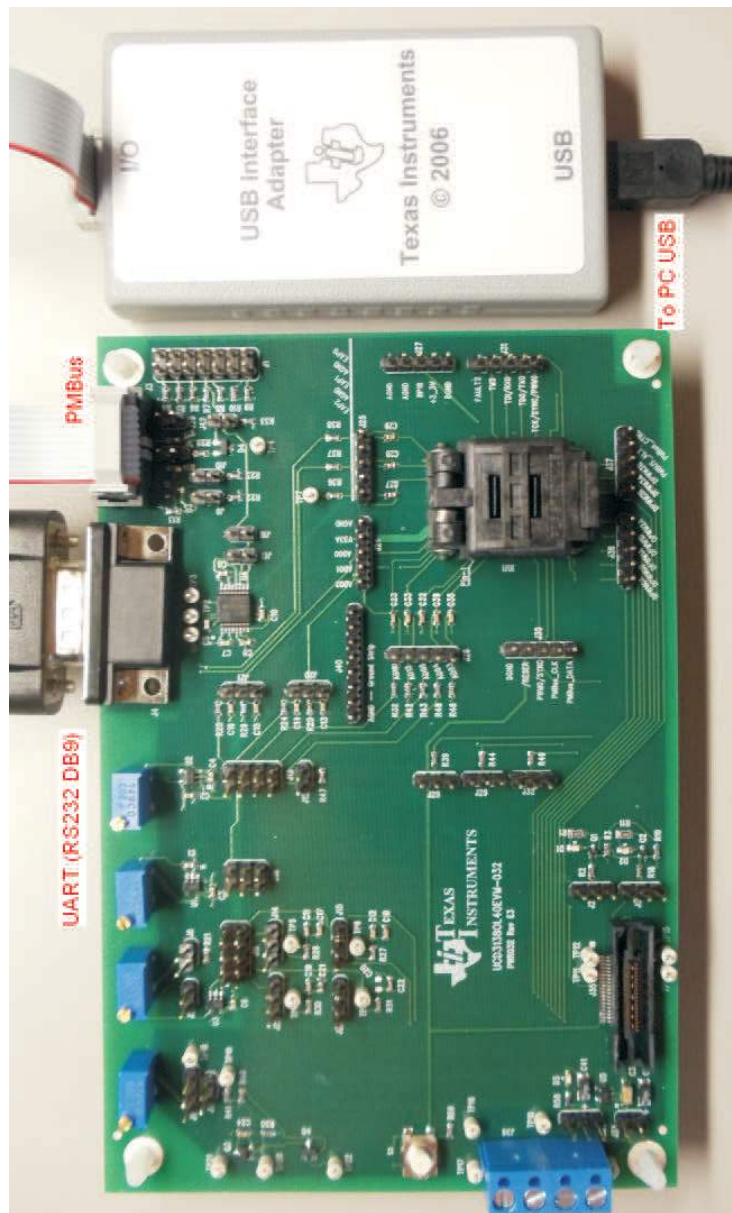

Figure 12. UCD3138OL40EVM-032 Test Connections
Shown below in Figure 12 is the connection between UCD3138OL40EVM-032 and the personal computer through USB-to-GPIO interface adapter.
Set up the EVM connection based on Figure 12.
1. Set up the EVM connection based on Figure 12. The LED of USB adapter is lighted up.